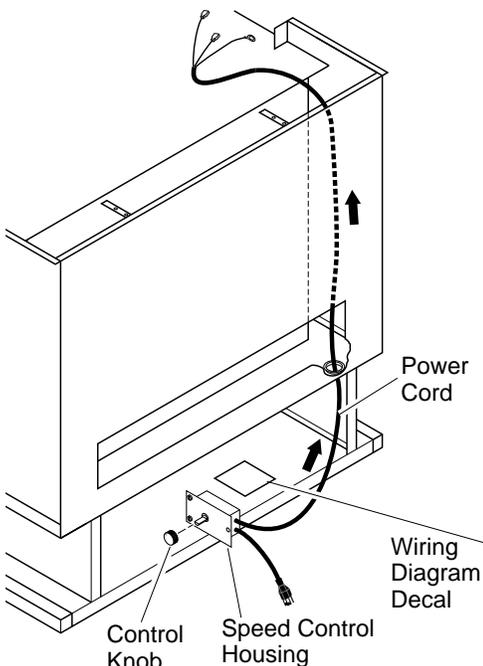
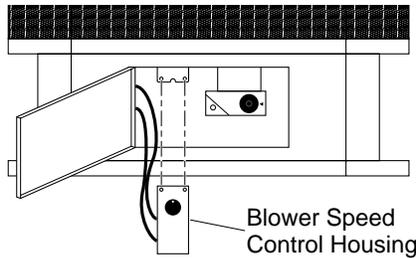

Figure 15 - Routing Power Cord
Figure 16 - Installing Blower Control Housing
10. Route ends of 3-wire power cord up from the lower control compartment through the plastic bushing, then up to the upper cavity of stove (see Figure 15, page 11).
14. Install plastic control knob onto output shaft of speed control housing (see Figure 15). Place speed control housing just inside control compartment door in front of stove (see Figure 16).
15. Using two screws provided in blower kit, mount blower speed control housing to mounting tab in left side of lower control compartment (see Figure 16).
18. Peel off the backing paper and stick the supplied wiring diagram decal on the stove floor as shown in Figure 15.
- Install plastic control knob onto output shaft of speed control housing (see Figure 20). Place speed control housing just inside control compartment door in front of stove (see Figure 16, page 11).
- Using two screws provided in blower kit, mount blower speed control housing to mounting tab in left side of lower control compartment (see Figure 16, page 11).